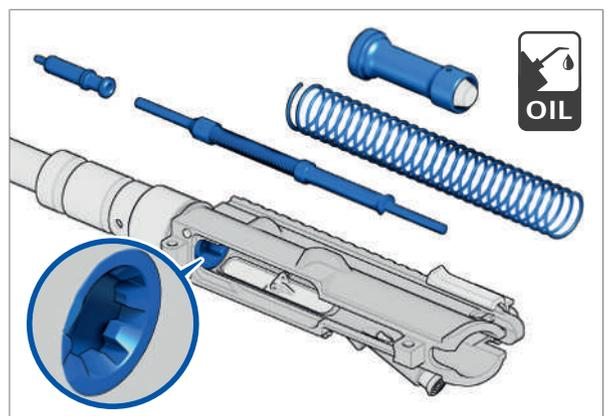

Fig. 117: Lubrication points of functional elements
4. Lubricate lubrication points of functional elements (Fig. 117).